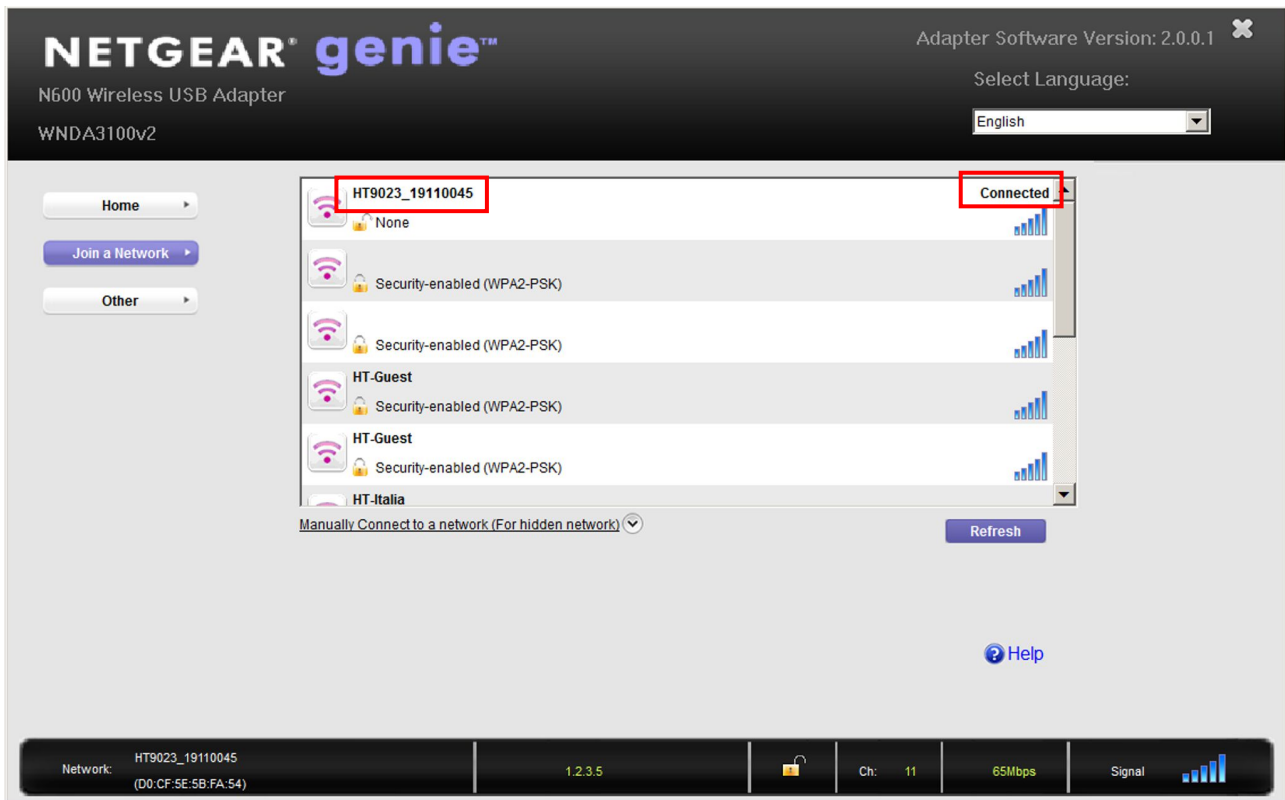

Fig. 15: WiFi connection of instrument to PC (example)
- Search for the “HT9023_xxxxxxxx” instrument in the WiFi device included on the PC and connect it as shown **as an example** in the following Fig. 15